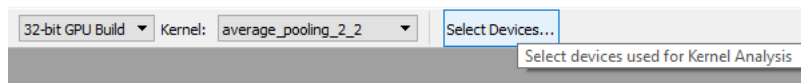

Figure 5: Select devices menu.
- The devices to which the project will be built have to be specified. Follow the procedure as indicated in figures 5 and 6.